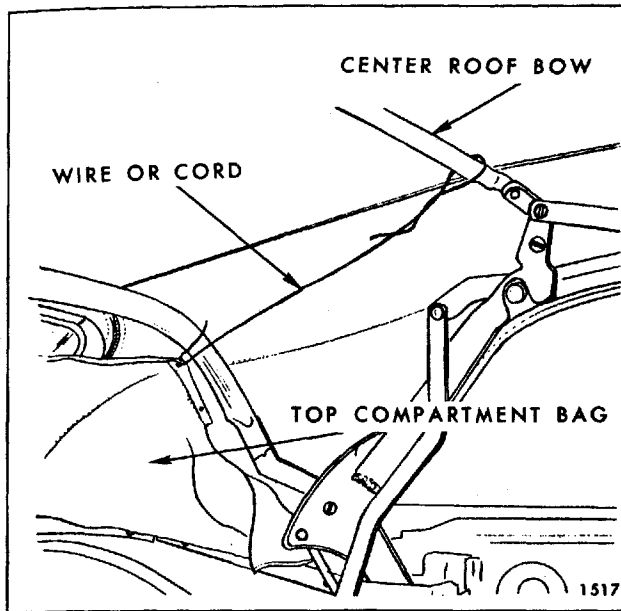

Fig. 6-45—Top Compartment Bag Tied To Center Rail
3. Detach folding top compartment bag from rear seat back panel, thus exposing rear quarter and rear trim stick attaching bolts. Forward end of top compartment bag may be tied or wired to center roof bow to provide ready access to attaching bolts (Fig. 6-45).